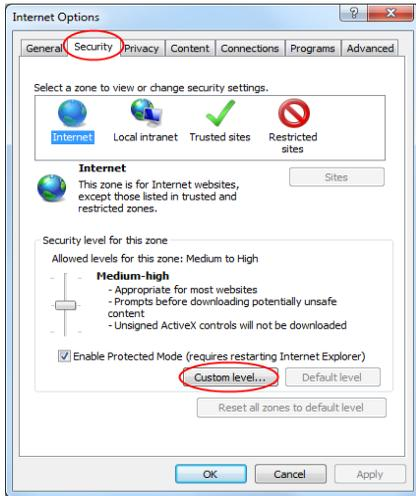

Fig 10-1
- ① Open IE browser. Click  → Internet Options.
- ② Select *Security* → *Custom Level*. Refer to Fig 10-1.